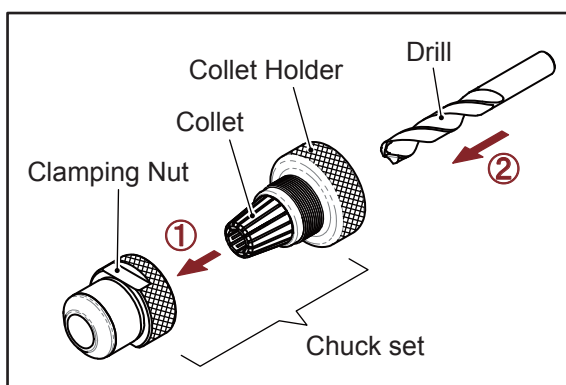
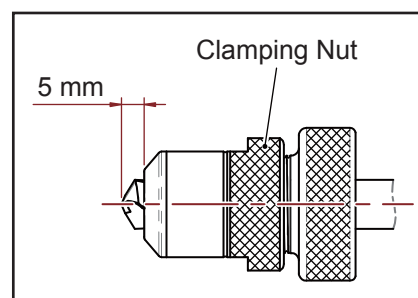

Fig. 4-2
Fig. 4-3
- 3) Screw in a little bit by clamping nut (Fig. 4-2 step ①), then insert the drill through the collet holder (Fig. 4-2 step ②), and push in until the drill is out of the clamping nut about 5 mm. (Fig. 4-3)